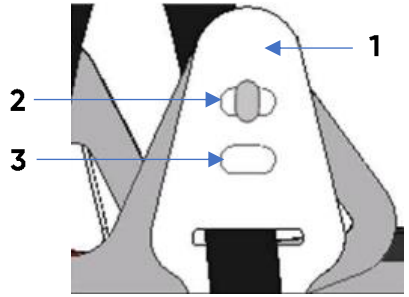

Fig. 2
The hart hat has two adjustment positions for the wearing height (Fig.2). After putting the helmet on the head, make sure that the cradle is properly adjusted to the height of the head. As standard, the attachment of the headband (1) is mounted in the low position (2). To change the wearing height, attach the attachment of the headband to the high position (3).